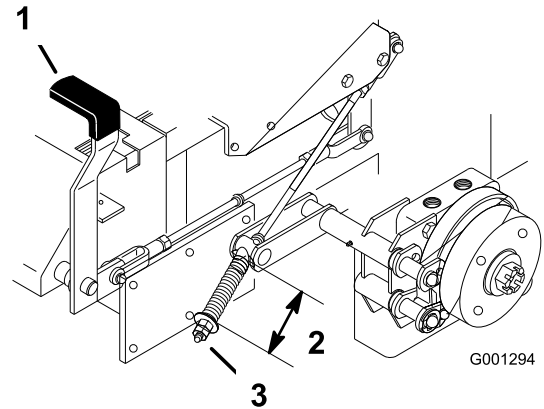

Figure 60
2. Measure the length of the spring. Measurement should be 2-1/2 inch (64 mm) between the washers (Figure 60).
3. If adjustment is necessary, release the parking brake, loosen the jam nut below the spring and adjust the nut directly below the spring (Figure 60). Turn the nut until the correct measurement is obtained. Turn the nut clockwise to shorten spring length and turn counter-clockwise to lengthen the spring.